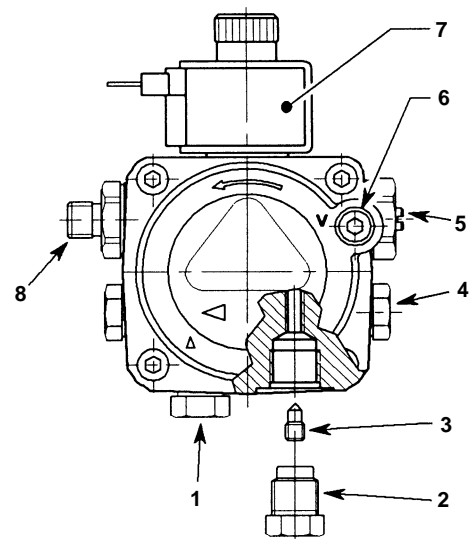

Fig. 6 - Riello RDB pump
Riello RDB burner - See Fig. 6
- 1 The fuel pump is supplied for use with a single pipe fuel supply system. For use on a two pipe system, it is necessary to fit the By-pass screw (see Fig. 6) into the tapping in the return port.
See Fig. 6